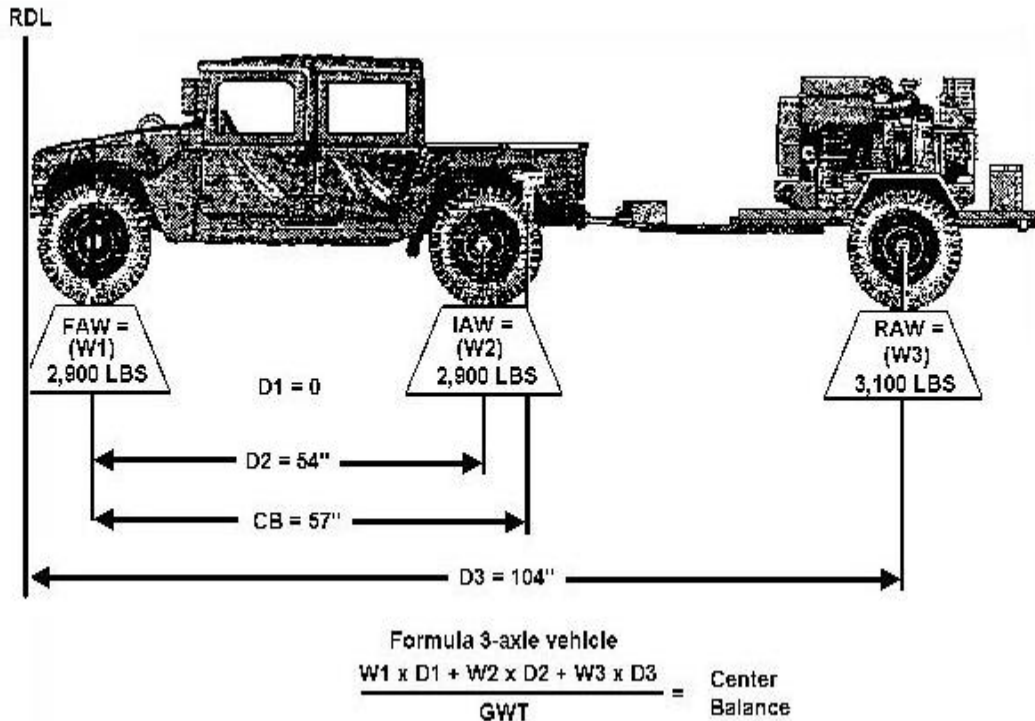

Figure 3-135
- d. Write the letters "CB" on the vertical portion of the T-shape and annotate the CB in inches (example: 57 inches) (see Figure 3-135).